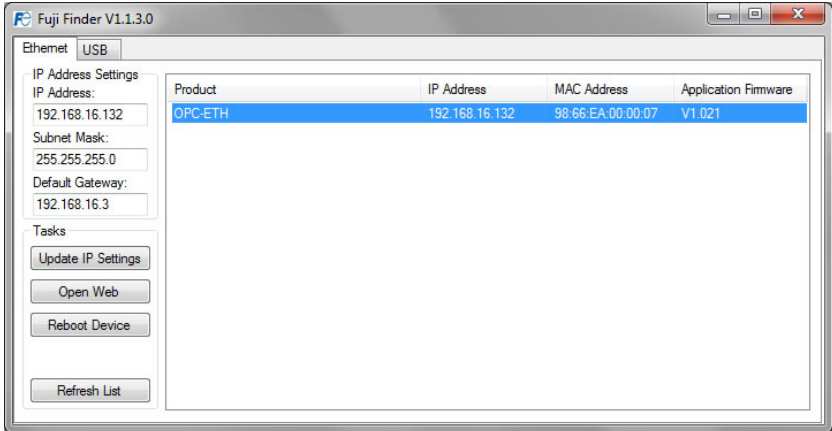
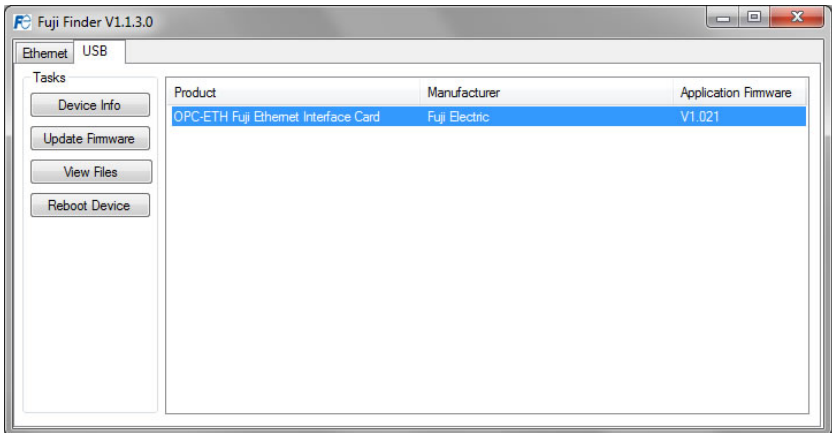

Figure 22: Fuji Finder Ethernet tab
Figure 23: Fuji Finder USB tab
The “Fuji Finder” application is a simple Windows PC program, which when executed discovers all OPC-ETH cards on the current Ethernet subnet, regardless of whether or not their network parameters are currently compatible with the subnet upon which they reside. The utility is also used to update firmware. These functions are accessed via two tabs available on the Finder application main program window (refer to Figure 22 and Figure 23.)
3. The Finder application will scan the Ethernet network for Fuji devices and then display each device's information on the "Ethernet" tab. Refer to Figure 22. If multiple devices are discovered, identify the targeted device via its unique **MAC address** (printed on a barcode label on the left-hand side of the interface card).